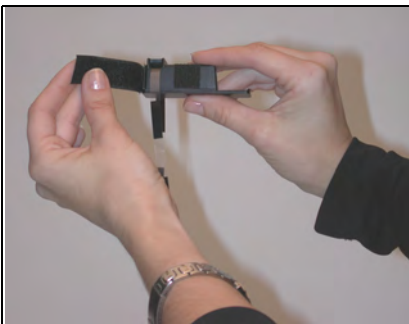

Figure 2b: Fastening the Velcro over the Photogate
5. Fasten the Velcro over the Photogate Tape Bracket. The Velcro helps to guide the tape through the bracket and keeps the tape taut (Figure 2b).